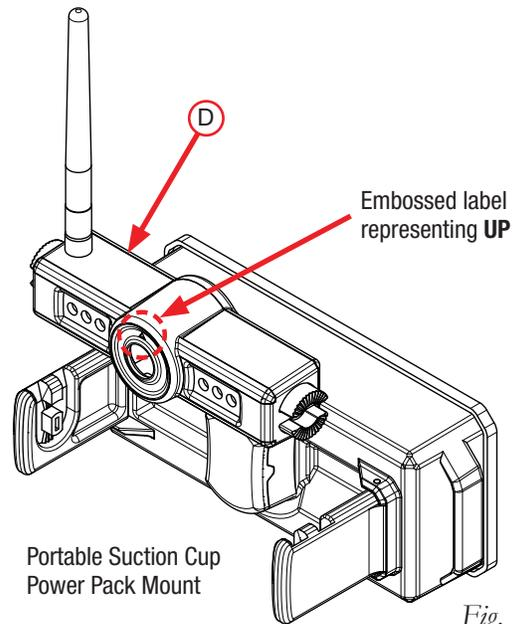

Fig. 10
1. Note the features of the HD camera (D) that will indicate proper positioning of the HD camera into the permanent trailer or portable suction cup power pack mounts (Fig. 10).